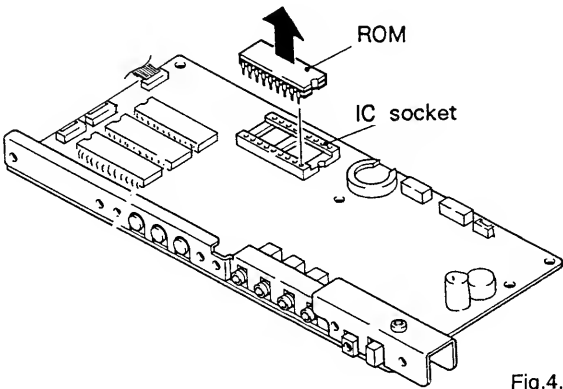

Fig.4.(図-4)
4) When the MAIN board is facing upward, the program ROM can be seen. Verify that the program ROM is IC15 and then pull it out the IC socket with a ROM puller or other tool.(Fig.4.)